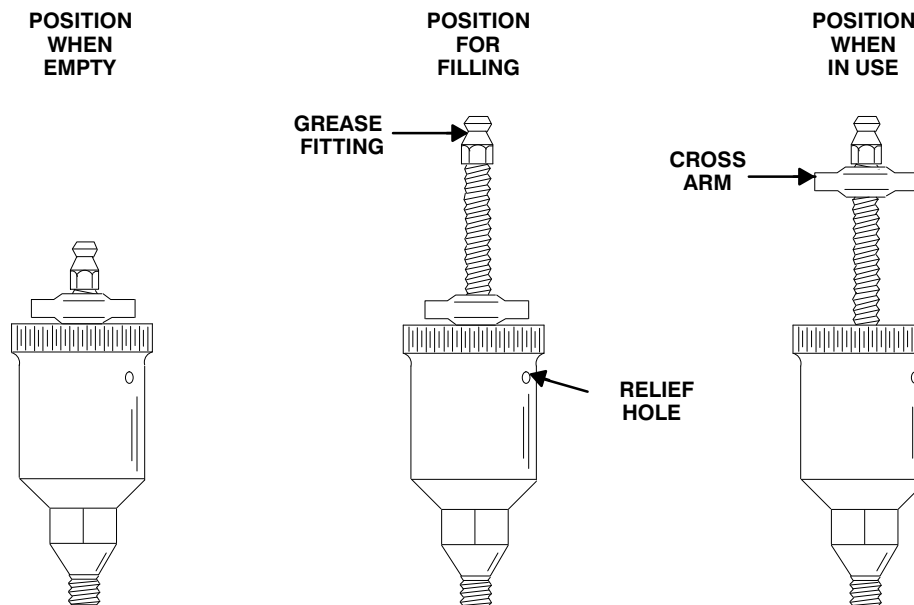

Figure 4. Automatic Lubricating Grease Cup
Fill the grease cup (11) through the grease fitting with No. 2 lithium base grease until grease escapes from the relief hole. Turn the grease cup arm counterclockwise until it is at the top of the stem; this will release the spring to apply grease to the seal (see Figure 4).